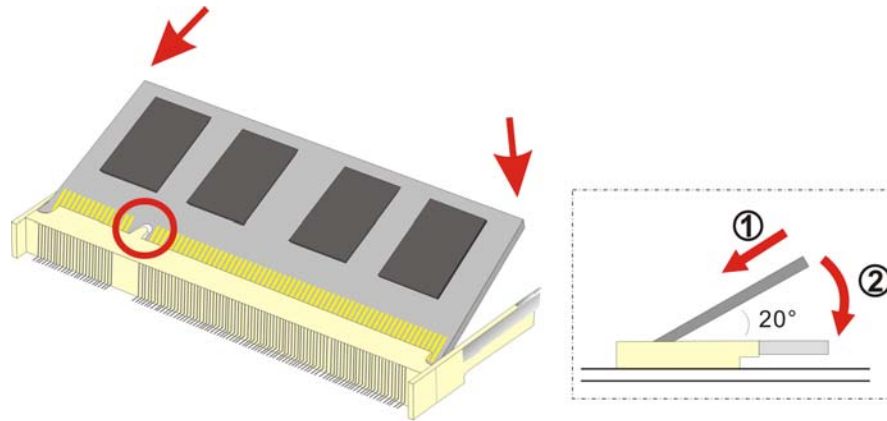

Figure 4-3: DDR2 SO-DIMM Module Installation
(Figure 4-3).
- Step 7:** Gently pull the spring retainer clips of the SO-DIMM socket out and push the rear of the DDR2 memory module down (**Figure 4-3**).